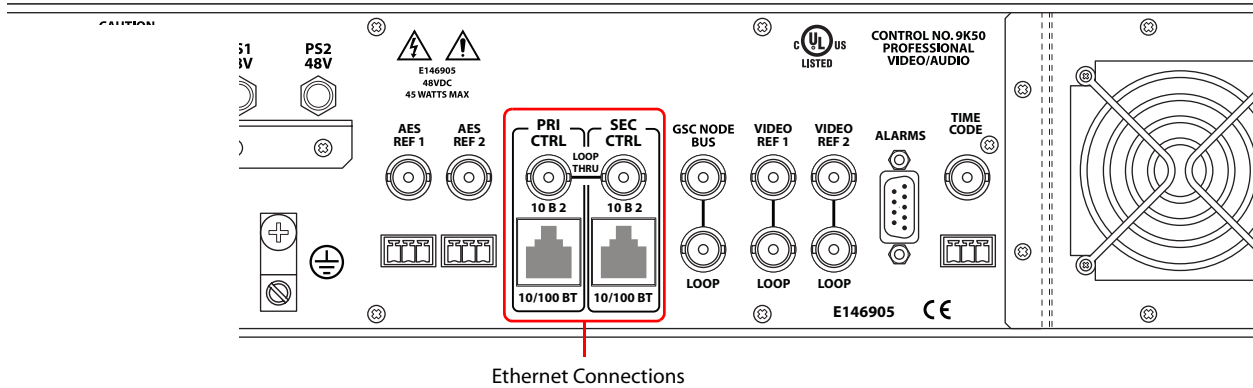

Figure 12-4. Ethernet Connections (Rear View)
- 1 Locate the two Ethernet ports labeled '10/100BT', as shown in Figure 12-4. These ports are divided into two sets, one primary ('PRI CTRL') and one secondary ('SEC CTRL').